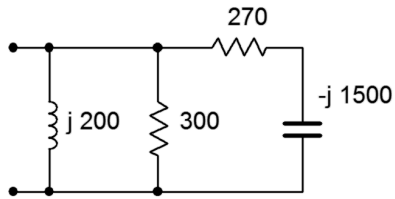

Figure 4.5
5. Determine the impedance of the circuit of Figure 4.5.